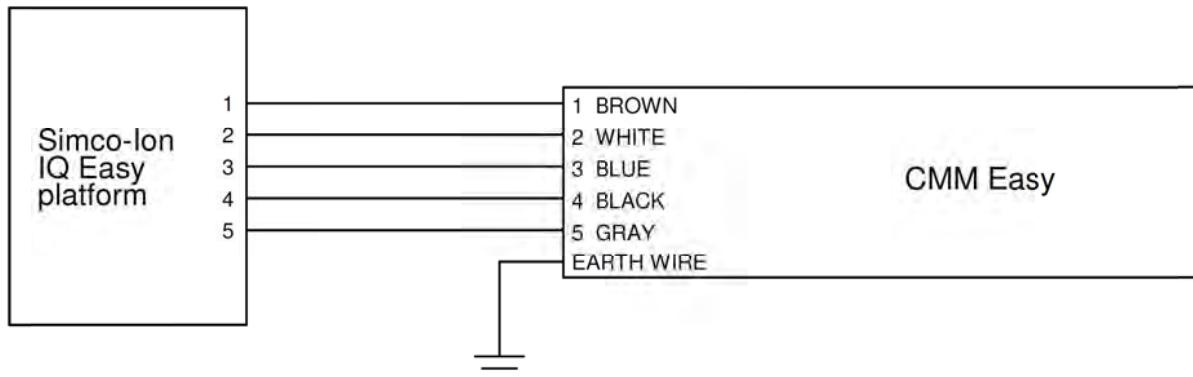

Fig 5, connections CMM IQ Easy (with Simco-Ion IQ Easy platform)
5.3 Connecting the CMM (IQ) Easy
- Connect the cable as shown in figure 4 (standard) or figure 5 (with IQ platform).
- Turn the locking screw right into the housing of the CMM (IQ) Easy.
- Increase the setpoint so that the LEDs light up orange. The high voltage is now active and Cycle OK will become active when it no longer detects a charging current to the electrodes. If the CMM is connected as seen in fig. 4, the setpoint can be increased by connecting e.g 7,5 mA (=4 kV) to the setpoint input. Check the manual of the Simco-Ion IQ platform for more information on setting the setpoint if the CMM is connected as seen in fig. 5.
6.2 Fine-tuning the CMM (IQ) Easy
Faults CMM IQ Easy, connected to the Simco-Ion IQ platform (fig. 5)